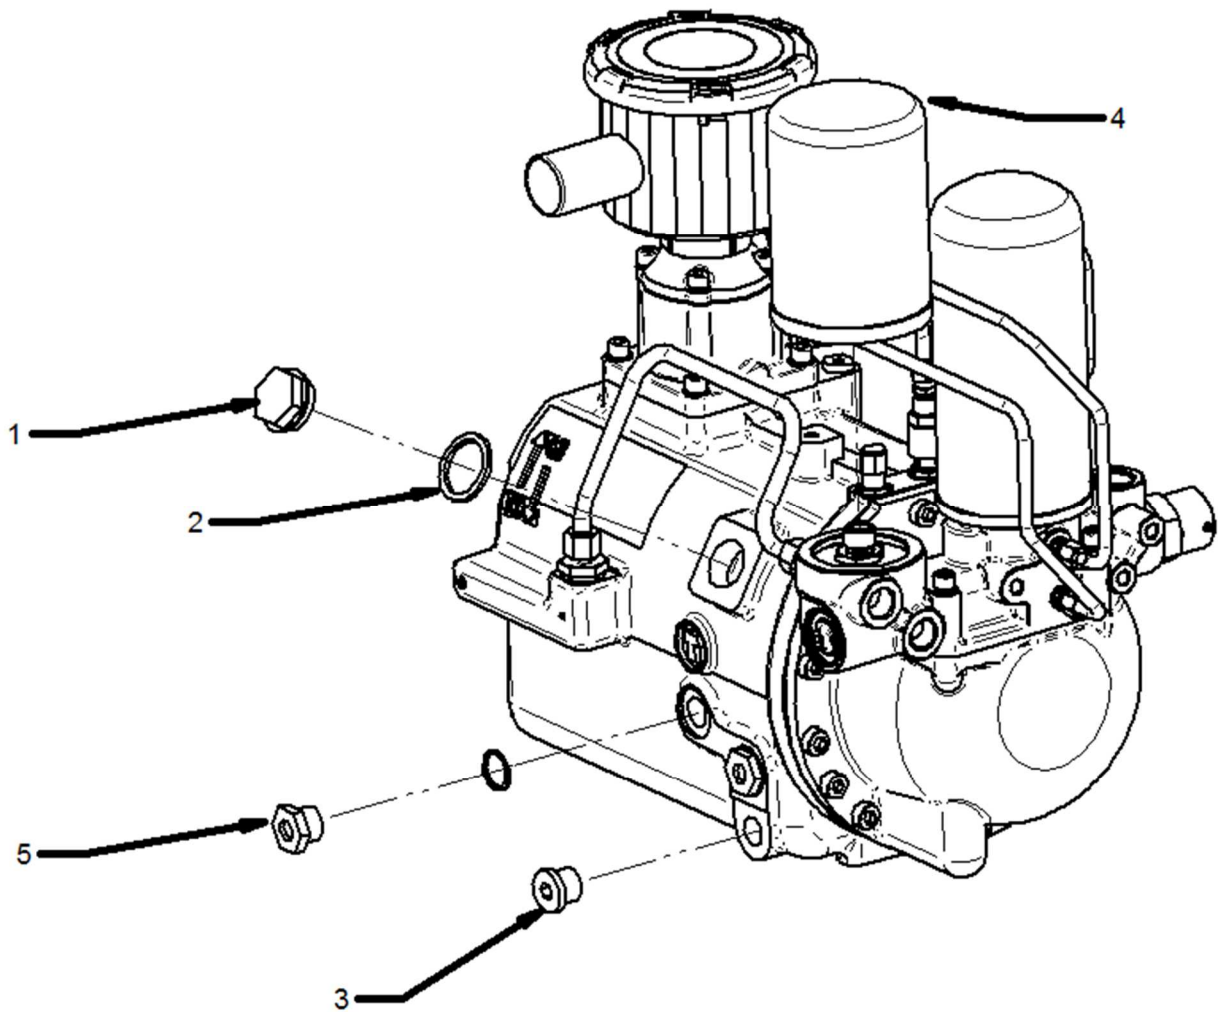

Fig. 3-4 SCI8DT05 Integrated Compressor– Oil and oil filter change
PROCEDURE: 1. Oil change (refer to figure 3-4) Warning! Use exclusively very clean containers and funnels for the oil filling. Dispose of the spent oil according to the norms existing in the country where the compressor is operated. a. Unscrew filler cap (1) and the gasket (2) placed on the compressor casing. b. Position a drain tray under oil emptying plug (3) to collect the spent oil. c. Open the oil emptying plug (3) slowly, and completely drain the oil from the group. d. Close the oil emptying plug (3). 2. Oil filter replacement (refer to figure 3-4) a. Unscrew the oil filter (4).
- 3. Filtering cartridge change (refer to figure 3-4)
- a. Unscrew the oil cartridge (4).
- b. Tighten the new oil cartridge (4).